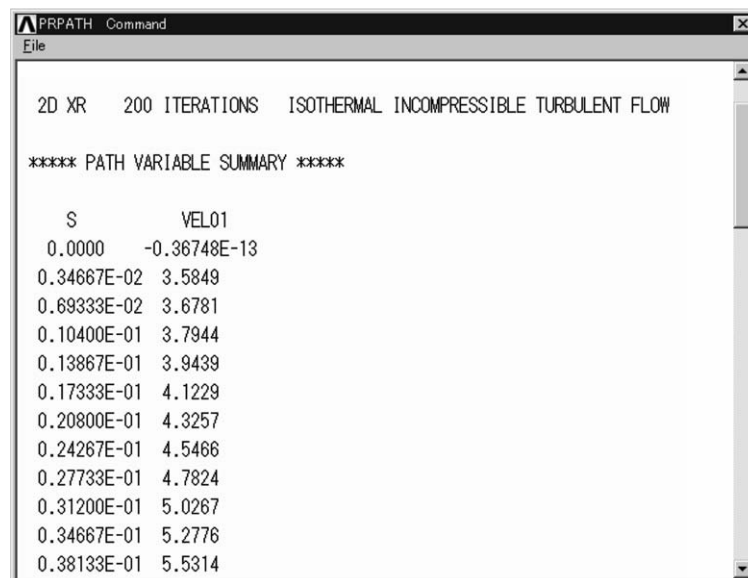

Figure 5.41 Window of **PRPATH Command**.
- (1) Select [A] **VEL01** in **Lab1-6** box and click **OK** button. Then the list for the defined path appears as shown in Figure 5.41.